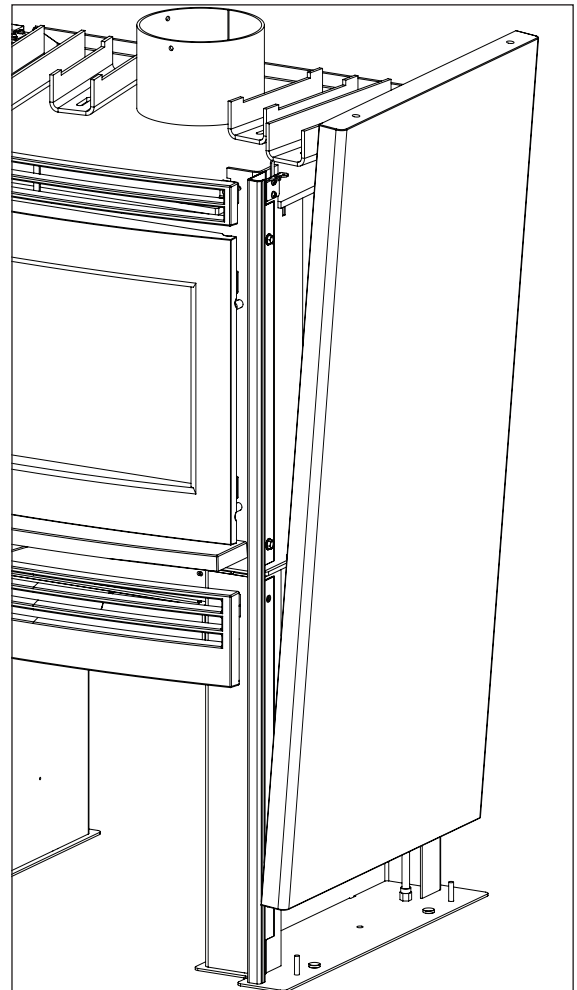

Figure 2: NEOSTone side panel to Pins.
2. Remove the screws in the Side Panel Mounting Brackets. "Figure 2: side panel mounting brackets."